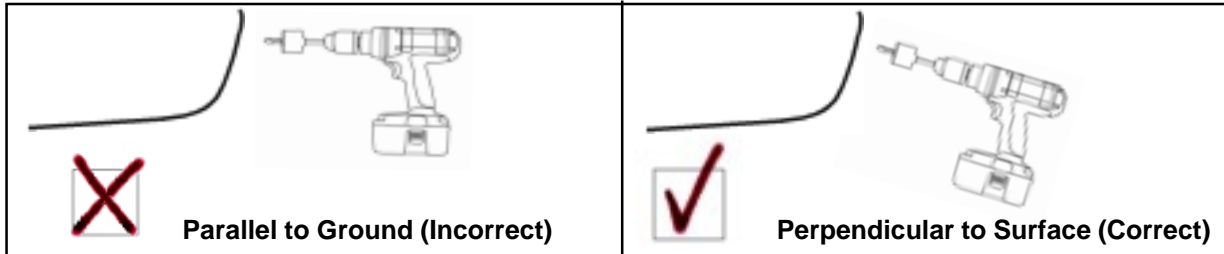

Figure 3.
**Caution:** Before performing the following step, ensure that the hole saw to be used is sharp and free of drilling debris. Ensure that the hole saw is pointed perpendicular to the surface of the bumper, not horizontal to the ground. (See Figure 3.)